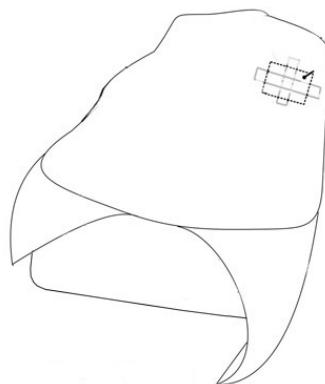

FIGURE 820B
- (a) Line the bottom half of the container with a polyethylene sheet. Refer to **Figure 820B**.